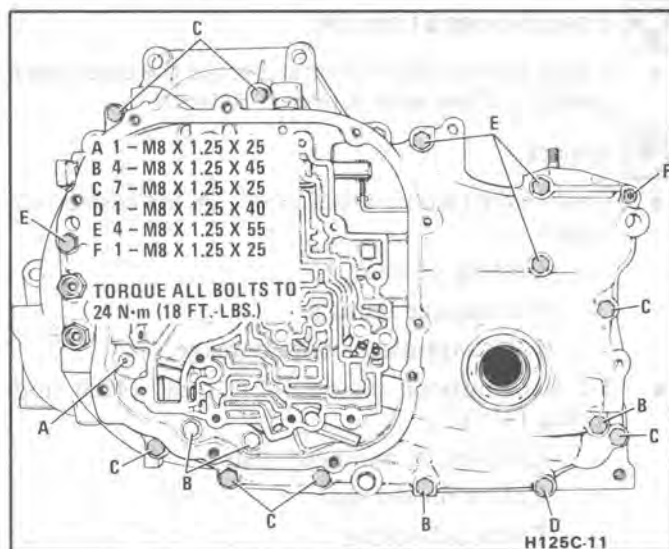

Figure 84A Bolt Hole Locations
- Remaining bolts and torque as shown in Figure 84A
- Retainer (701) to manual valve (406)